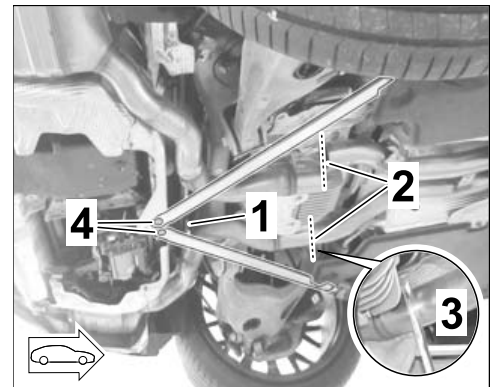

Figure 25
3.3.2 Remove hexagon-head bolt (M8 x 16, 2 x) on strut between the rear silencers (⇒ *Figure 25 -1-*) and remove strut.
3.3.4 Remove hexagon-head bolt (M8 x 20, 2 x) on rear-end cross strut (⇒ *Figure 25 -4-*) (⇒ *Workshop Manual '421319 Removing and installing rear-axle chassis subframe struts'*).